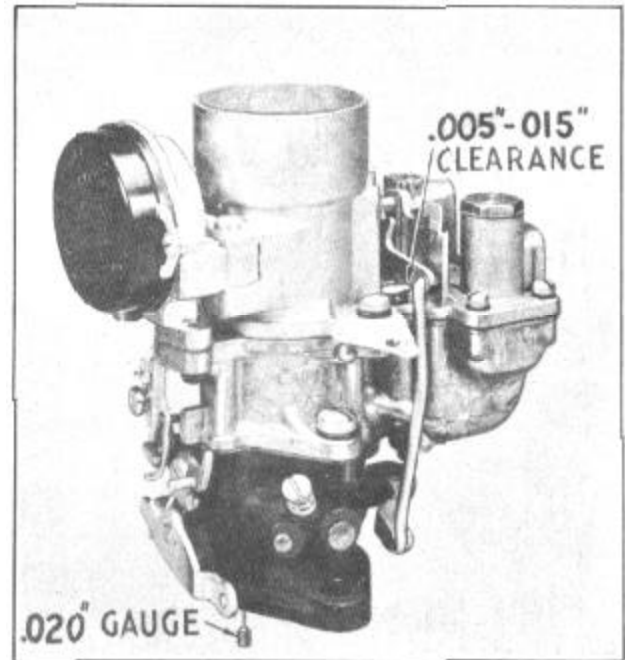

FIGURE 8
1. Crack throttle valve .020" by placing Carter gauge No. T-109-29 between throttle valve and bore of carburetor on side opposite the idle port, Figure 8.